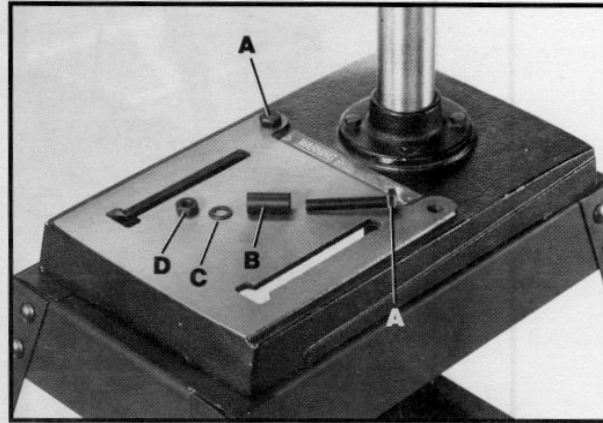
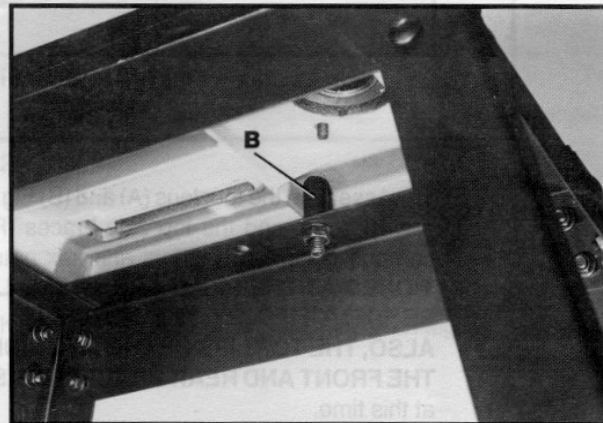

Fig. 12C
Fig. 12D
2. Fasten the drill press to the stand using the two long screws (A) Fig. 12C, spacers (B), flat washers (C) and hex nuts (D). **NOTE:** The spacers (B) are to be positioned between the bottom of the drill press base and the top of the side braces, as shown in Fig. 12D.